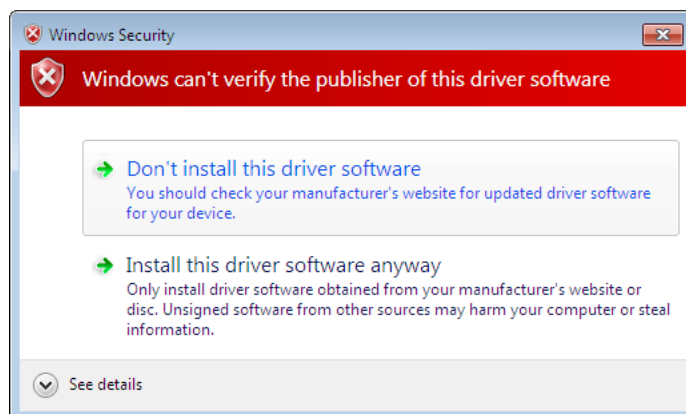

Figure 20. Windows Security Message
10. If the message “Windows can't verify the publisher of this driver software” displays, select **Install this driver software anyway** (see Figure 20).